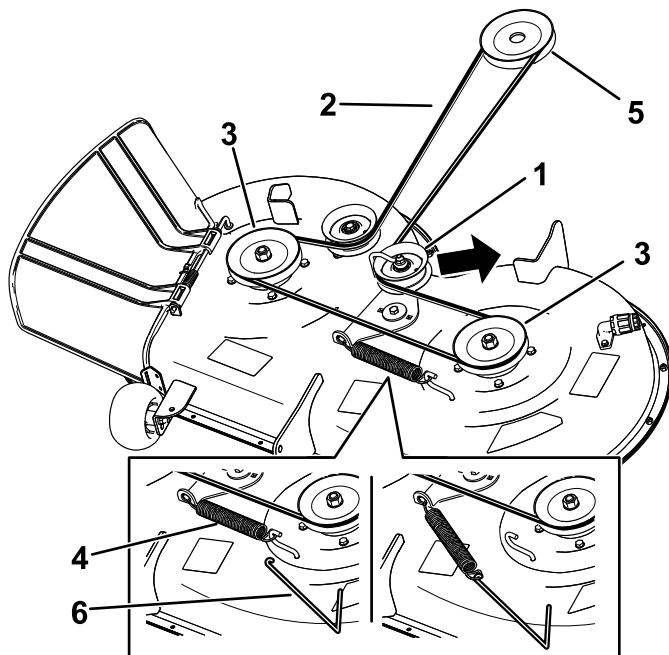

Figure 49
6. Using a spring-removal tool (Toro Part No. 92-5771), remove the idler spring from the deck hook to remove tension on the idler pulley, and roll the belt off the pulleys (Figure 49).
7. Route the new belt around the engine pulley and mower pulleys (Figure 49).
8. Using a spring-removal tool (Toro Part No. 92-5771), install the idler spring over the deck hook and place tension on the idler pulley and the mower belt (Figure 49).